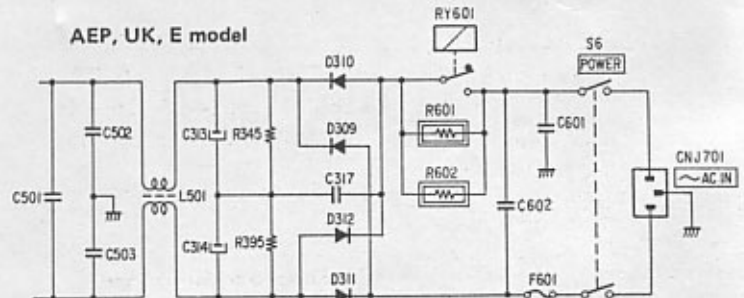

Fig. 2
1. SURGE-CURRENT CONTROL CIRCUIT (See Fig. 2)
2. LINE FILTER (See Fig. 2)